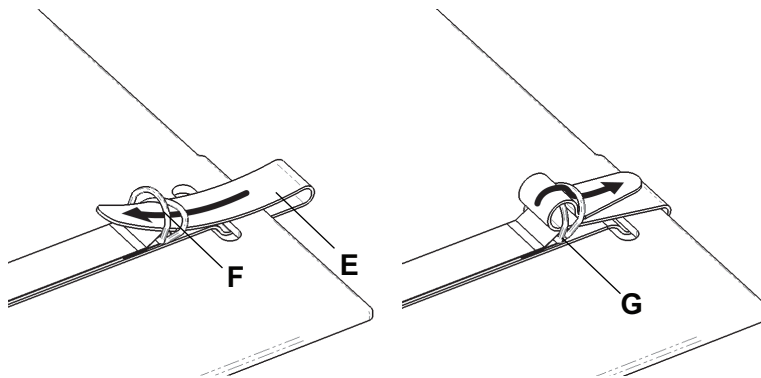
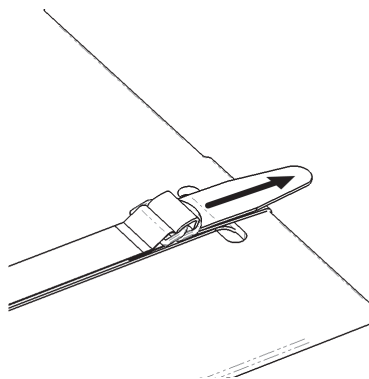

Figure 2 – tie down strap
Figure 3 – Pull tie down strap
9. Put the tie down strap (E) through the D-rings (F), (Figure 2).
10. Loop the tie down strap between the D-rings (G) (Figure 2). Pull the tie down strap until secure (Figure 3).